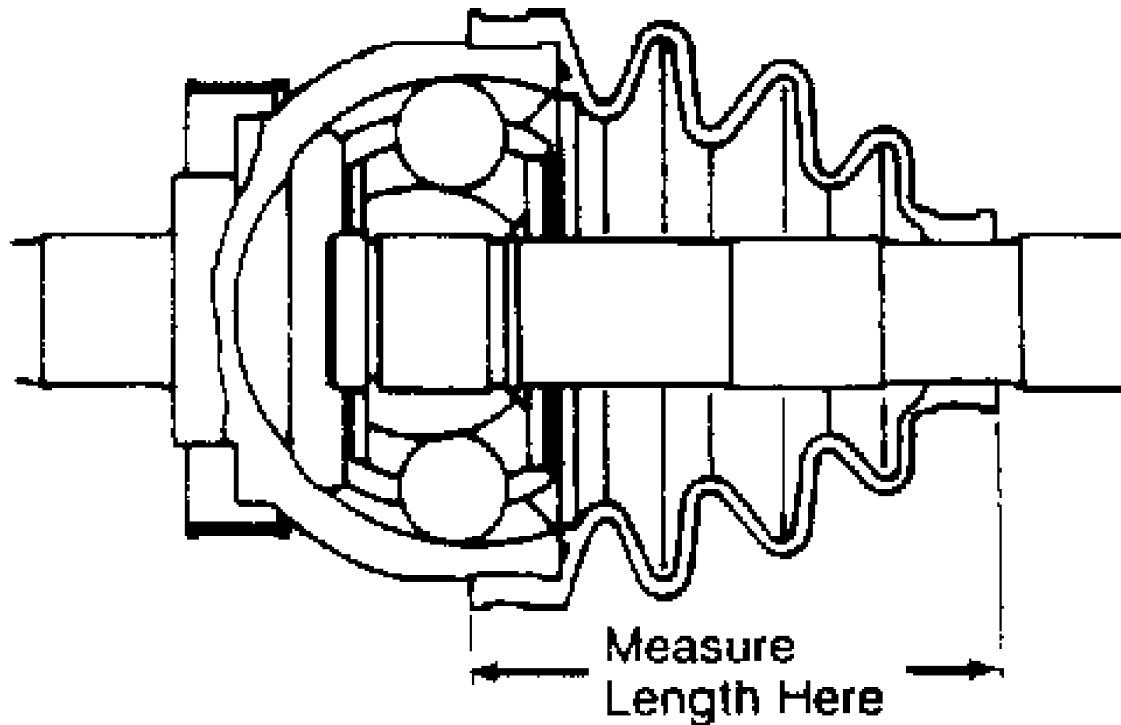
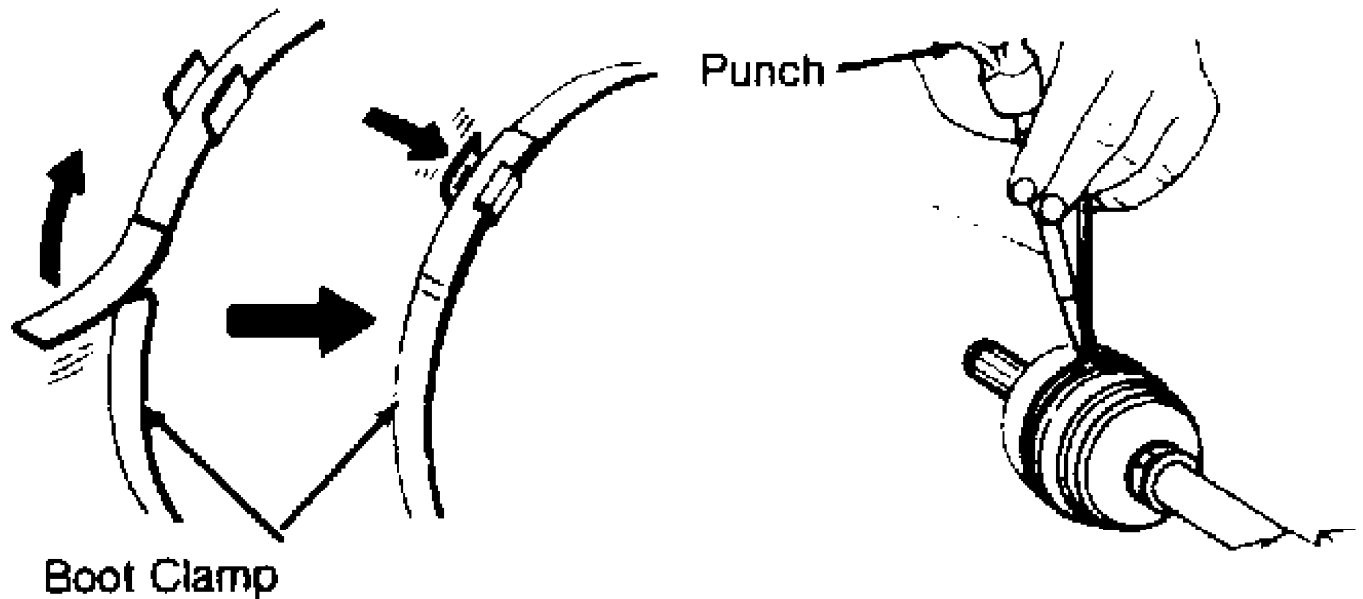

Fig. 7: Setting Boot Length (Typical)
Fig. 8: Installing Boot Clamps
3) Position boot to correct length. See AXLE SHAFT BOOT LENGTH table. See Fig. 7. Lock boot clamps in place using hammer and punch. See Fig. 8.
2) Pack joint with grease. Install slide joint housing, aligning marks made during disassembly. Position boot to correct length. Refer to the AXLE SHAFT BOOT LENGTH SPECIFICATIONS table. See Fig. 7. Lock the boot attaching clamps in place using a hammer and punch. See Fig. 8.
2) Drive joint assembly onto shaft by tapping on the nut with a hammer. Pack the joint with grease. Position boot to correct length. Refer to the AXLE SHAFT BOOT LENGTH SPECIFICATIONS table. Also, see Fig. 7. Lock the boot attaching clamps in place using a hammer and punch. See Fig. 8.